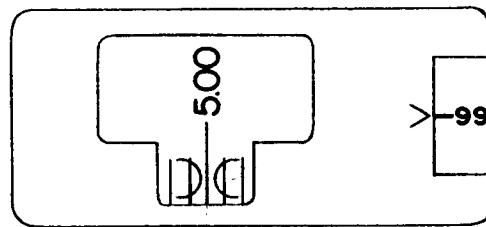

FIG. 3
4. Follow same procedure at point 15 inch on scale image viewed in scope unit window. This adjustment is repeated until scale graduations are parallel to catch fork. Re-adjust scope housing for sharpness and lock scope housing tight by using (4) screws (0-40). Re-check scale image in scope unit window and make final adjustment on scale holder (0-7) if necessary. Lock (2) screws (0-41) tight. Check tenth reading dial to scale graduations. (This reading will determine proper focus of scope — i.e. scope must be adjusted in or out for proper focus.) Dial reading should be set at 99 and catch fork lined central with a given line by moving the machine lead screw. See Fig. 3. Rotate dial to line below 0 line — catch fork should now fall centrally over adjacent line. If it doesn't, then the focus of the scope must be adjusted.